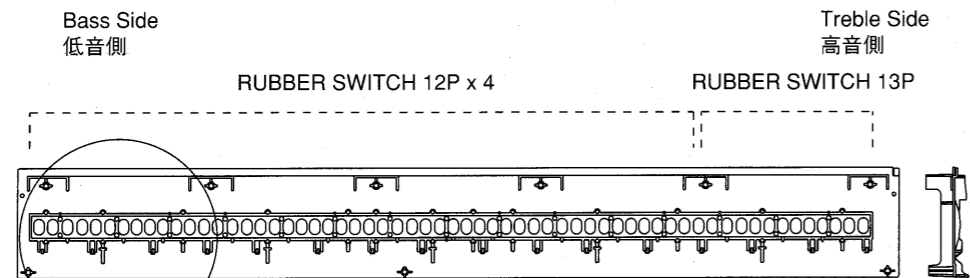
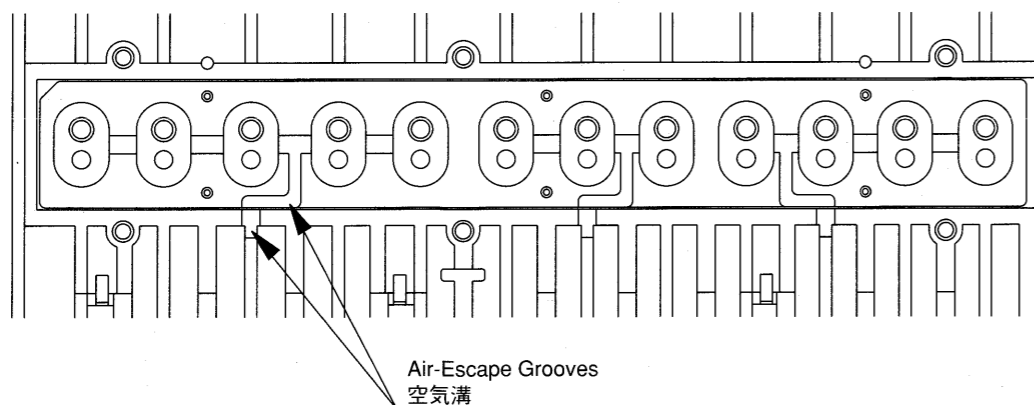

Fig.1
Fig.2
1) First turn the chassis upside down, making sure that the right and left sides are not positioned opposite one another. Next, as shown in Fig. 1, place 4 pieces of RUBBER SWITCH 12P in turn, on the chassis from the left end (the bass side of the keyboard), aligning them with the long holes provided on the chassis. At this point, be sure that the air-escape grooves of each RUBBER SWITCH are positioned at the respective air-escape grooves on the chassis. (See Fig. 2.)
1) まず、シャーシを左右が逆にならないように裏返しにします。次に、Fig.1に示すように左側(鍵盤の低音側)よりRUBBER SWITCH 12Pを長穴にあわせて順に4ヶおいていきます。この際、RUBBER SWITCHとシャーシの空気溝の位置が合うように注意して下さい。(Fig.2参照のこと)